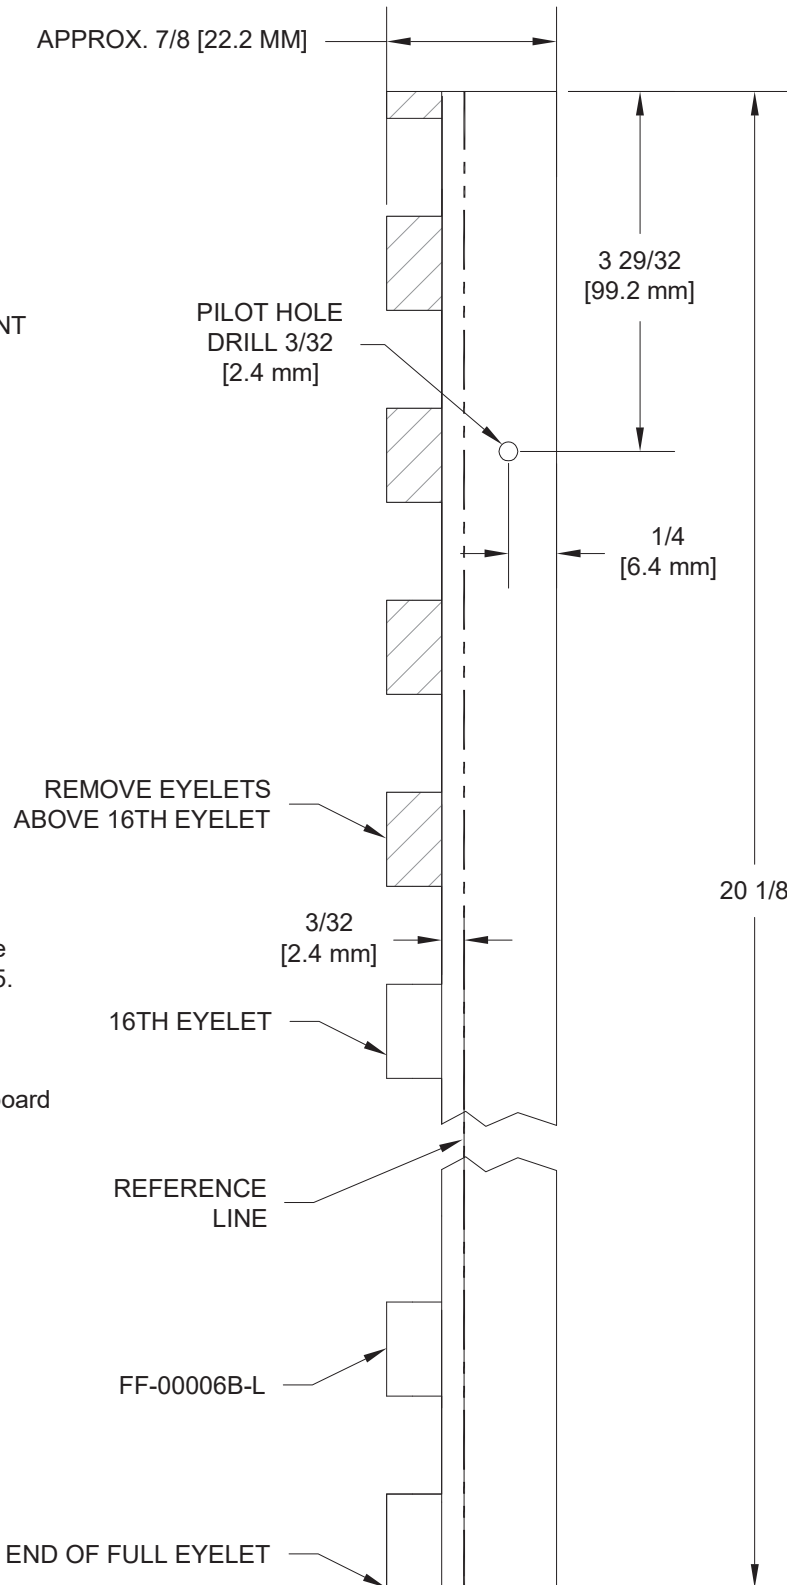

FIGURE 5: HINGE FABRICATION
Step 10: Fabricate the FF-00006B-L Hinge from 1/8 Piano Hinge as shown in Figure 5. See Page 29-08, Figure 1 for orientation and further detail.
Step 11: Mark a reference line on the outboard side of the hinge as shown in Figure 5.
Step 5: Cleco the FF-00006B-L Hinge to the cowling hinge shim, firewall, and side skin using the pilot hole as shown in Figure 1 and on Page 29-07, Figure 5. Clecos previously installed will prevent the entire hinge from laying flat.